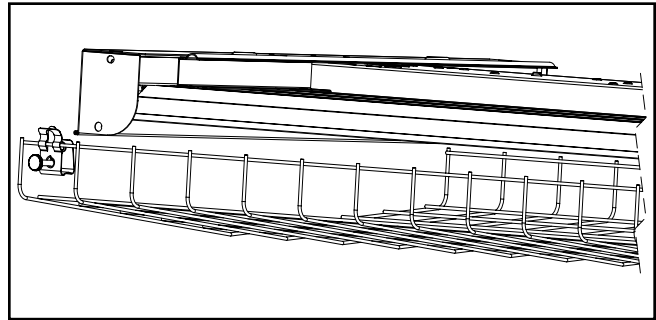

Figure 2.
2. Install clips to wireguard. Be sure clip mounting hole lines up with K.O. (Figure 2.).
3. Install thumb screw to clip (Figure 2.).